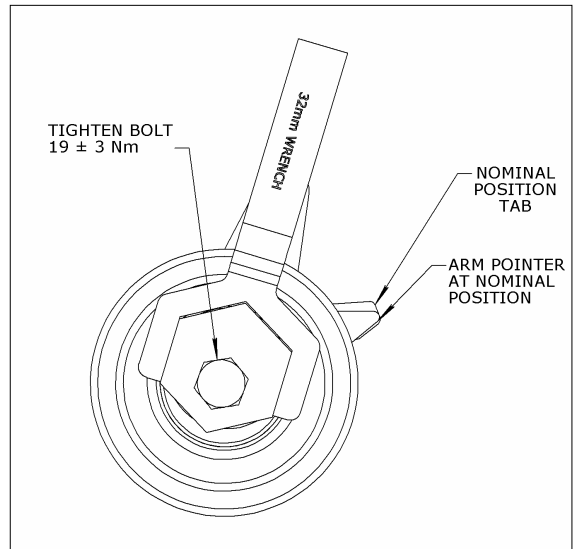
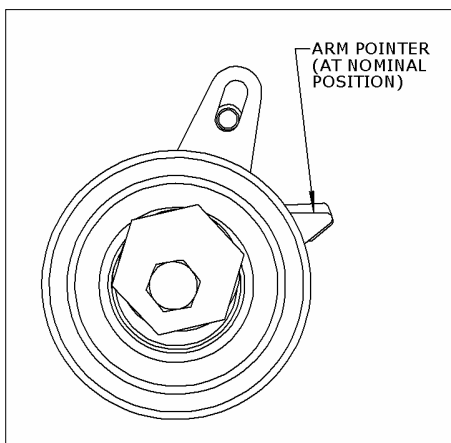

Figure 4: Proper installation of the tensioner.
Figure 5: Verification of the Tensioner installation.
7. Continue rotating the Installation Shaft until the Arm Pointer and the Nominal Position Tab are closely aligned at their lower edges, and then lock the tensioner in this position by tightening the Mounting Bolt with **19±3 Nm** of torque (See Figure 4).
8. Remove both wrenches. Rotate the crankshaft two (2) complete revolutions manually for proper seating of the belt until the crankshaft is repositioned at the TDC position.
- If the Arm Pointer still aligns with the Nominal Position Notch at their lower edges, the installation is complete (See Figure 5).